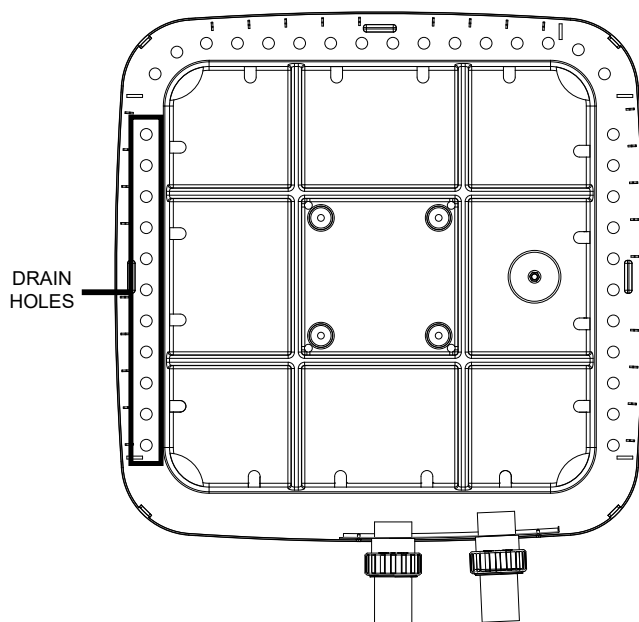

Figure 64. Condensate Drain Hole Locations
1. Routinely check to be sure the condensation drain holes in the base of the unit are not plugged with dirt or debris. See Figure 64 for condensate drain hole locations.